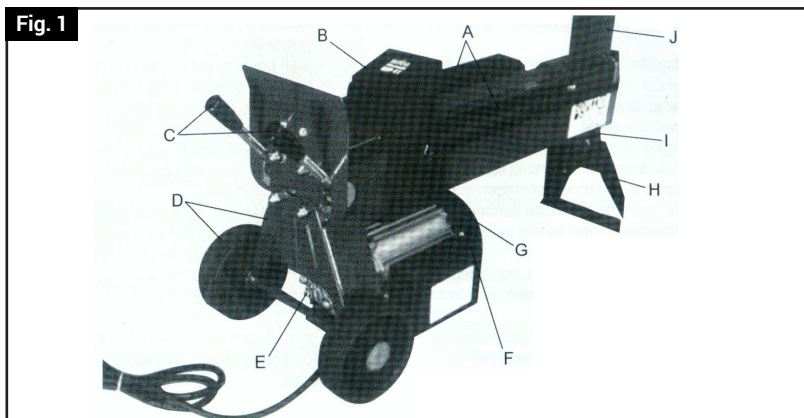

**Figure 1: List of major components**
Check the components based on the following list in Figure 1.
6. **Place Log on the Splitter.** Put a log lengthwise on the Main Body of the splitter (I in Figure 1). It should be flat on the Splitter cradled between the Log Guiding Plates (A in Figure 1). Do not split a log at an angle. Make sure that one end of the log is squarely in contact with the Wedge (J in Figure 1) and the other end with the Log Pusher (B in Figure 1).
7. **Start Splitting Logs** – Press down on the Electric Motor Start Switch (F in Figure 1) with one hand. The motor will start to spin. Wait a few seconds until the motor spins fast enough to create the necessary pressure in the Hydraulic pump. When there is enough pressure, depress the two Operating Handles with your two hands (C in Figure 1). This will move the Log Pusher (B in Figure 1) in the direction of the log and compress the log against the Wedge (J in Figure 1). This motion will gradually split the log. As soon as the log is split, SLOWLY release the Operating Handles (C in Figure 1). This will make the Log Pusher (B in Figure 1) retract to its original position. Do not release the Operating Handle in a sudden or jerking movement.
1. Check that the Log Pusher (B in Figure 1) is fully retracted to its original position.